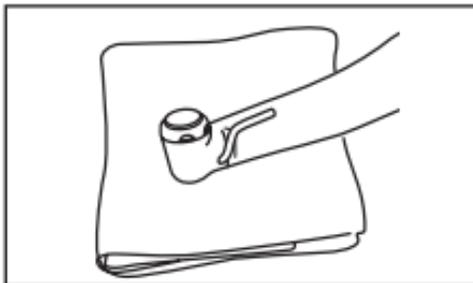

Fig. 12
- 6) Wipe the exterior of the handpiece and coupling clean using a dry lint free cloth (Fig. 12).